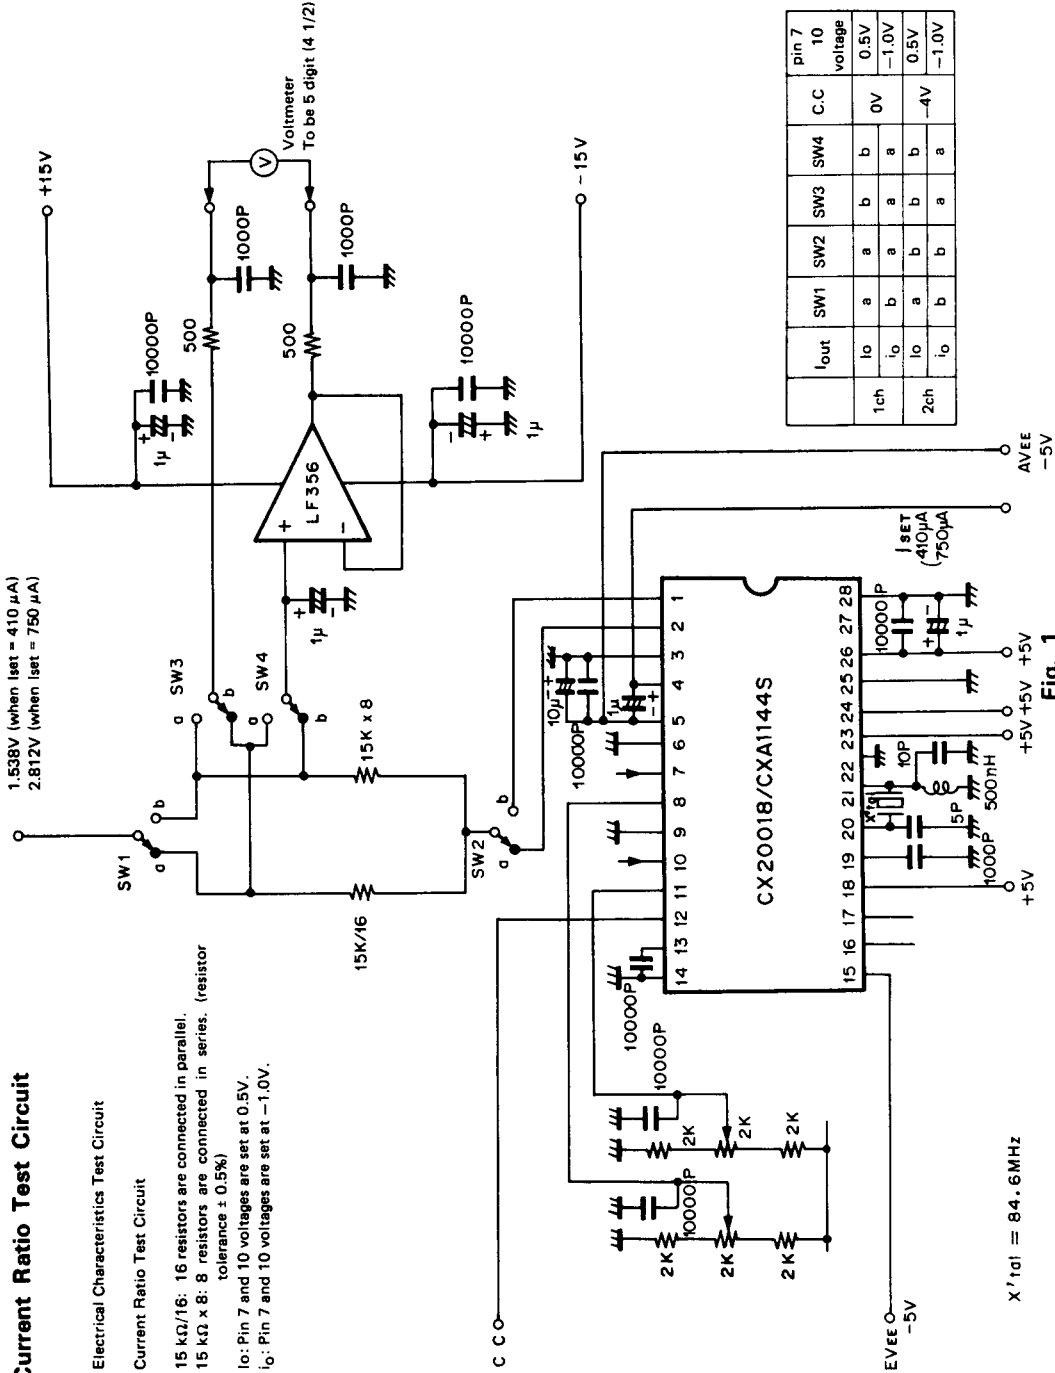

Fig. 1
*2 In the current ratio test circuit (See Fig. 1)